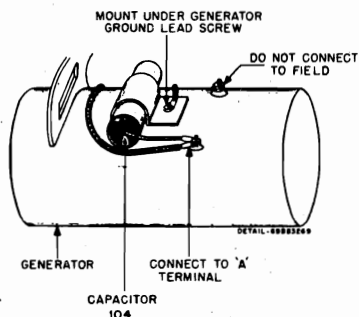

FIGURE 2.
1. Install generator capacitor (Part No. 8A4491) as shown in Figure 2. **WARNING:** Do not connect capacitor to field terminal.